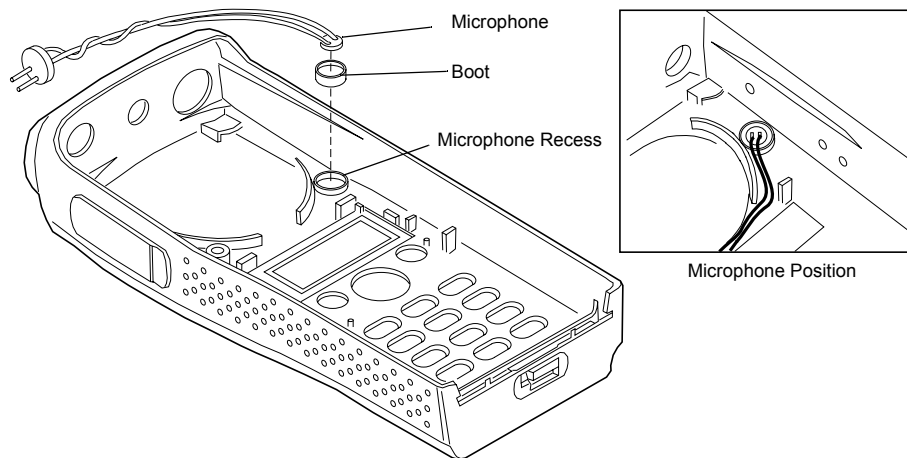

Figure 6-12. Microphone Re-assembly
3. 3. Insert the Boot and microphone sub-assembly into the microphone recess in the housing and route wires as shown in Figure 6-12.